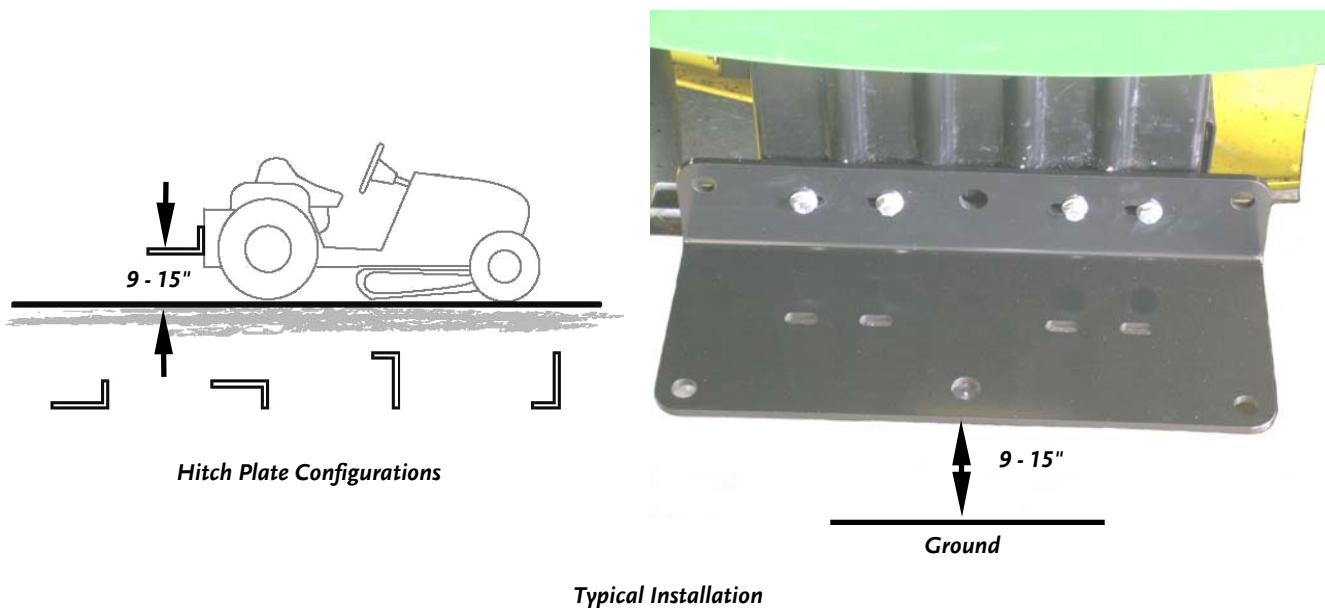

Figure 12
**NOTE:** Depending on the size and shape of your Lawn Tractor, different Hitch Plate Kits may be used. Pick the configuration that aligns best with the existing mounting holes and avoids areas with other equipment such as the gas tank, battery, or electrical wiring. You may need to drill mounting holes if none are available. See **Figure 12** a typical installation.